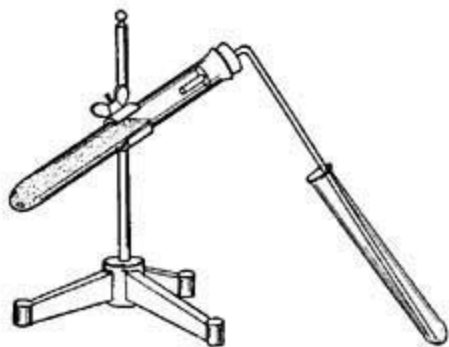

FIG. 24.—Making carbon dioxide from marble and hydrochloric acid.
49. How to Obtain Carbon Dioxide. There are several ways in which carbon dioxide can be produced commercially, but for laboratory use the simplest is to mix in a test tube powdered marble, or chalk, and hydrochloric acid, and to collect the effervescing gas as shown in Figure 24. The substance which remains in the test tube after the gas has passed off is a solution of a salt and water. From a mixture of hydrochloric acid (HCl) and marble are obtained a salt, water, and carbon dioxide, the desired gas.